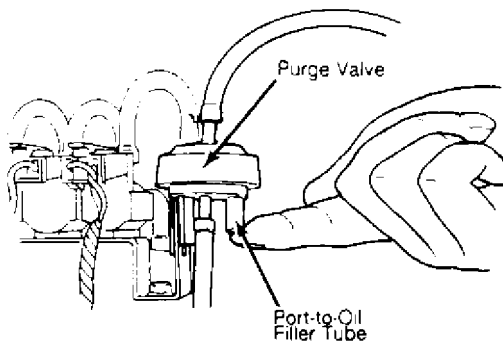

Fig. 4: RX7 Rotary Engine Purge Valve
1) Disconnect purge valve-to-oil filler tube hose from purge valve. Start engine and run at idle speed. Place finger over open purge valve port and feel that no vacuum is present. See Fig. 4.